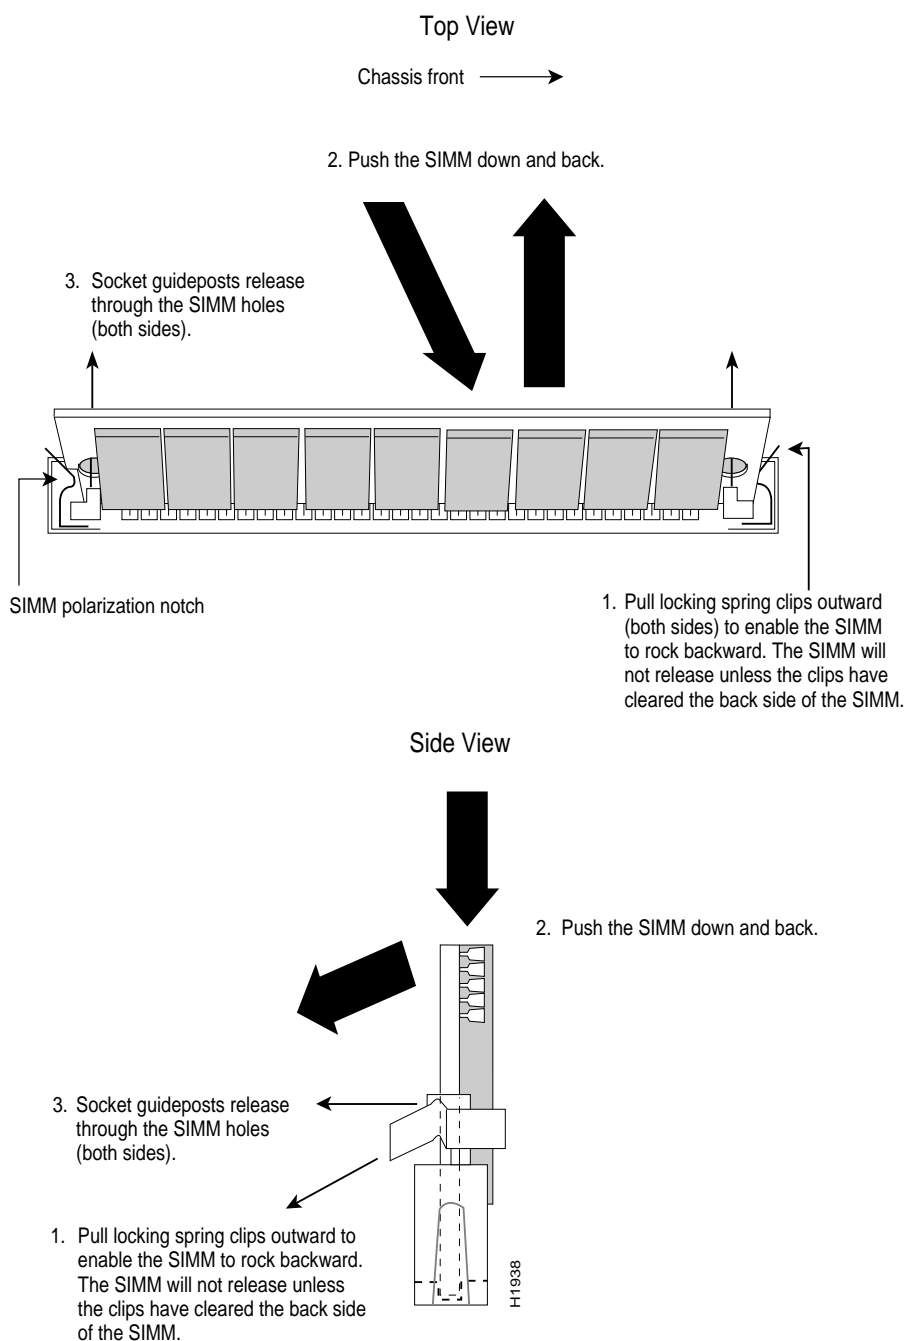

Figure 4 Removing SIMMs from Expansion Slots
- Step 5** Remove the SIMM from the back expansion slot (U49) first. The SIMMs are held in place by small metal spring tabs. Place your thumbs on the upper corners of the SIMM (see Figure 4 for correct positioning).
- Step 6** Use your index fingers to push the metal tabs outward, while using your thumbs to push the SIMM back and downward about 45 degrees to release it from the metal tabs (see Figure 4).